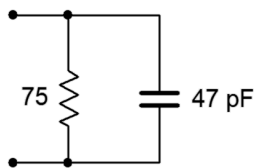

Figure 3.1
1. Determine the effective impedance of the network shown in Figure 3.1 at 10 MHz.
7. For the network shown in Figure 3.1, determine the frequency below which the impedance is mostly resistive.